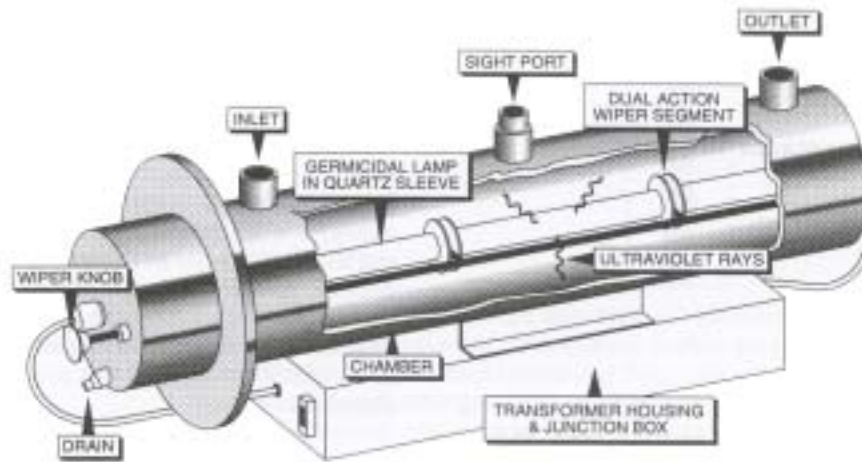

Figure 5.2: UV Disinfection System
Ultraviolet (UV) light, or radiation, is used by some small water systems for disinfection. UV radiation, which is generated by a special lamp, effectively destroys bacteria, viruses and protozoa (Figure 5.2).